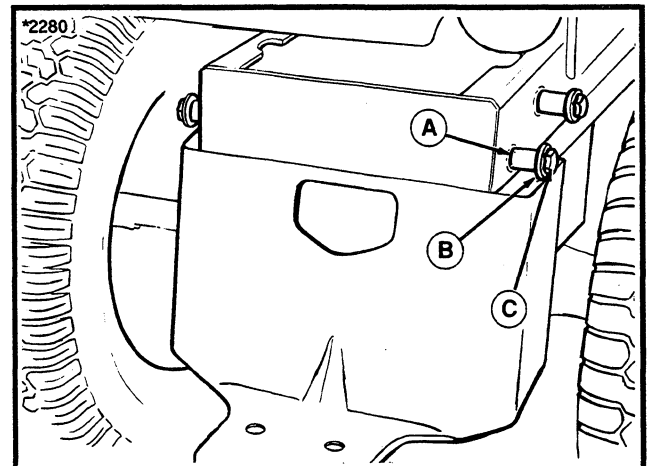

Figure 1.
1. Install the four spacers (A, figure 1) to the rear tractor frame using four washers (B) and 1/2-13 x 2 1/2" capscrews (C). Secure on inside of frame with 1/2-13 nyloc nuts. The front capscrews are mounted in the top frame holes and the rear capscrews are mounted in the bottom frame holes as shown in figure 1.